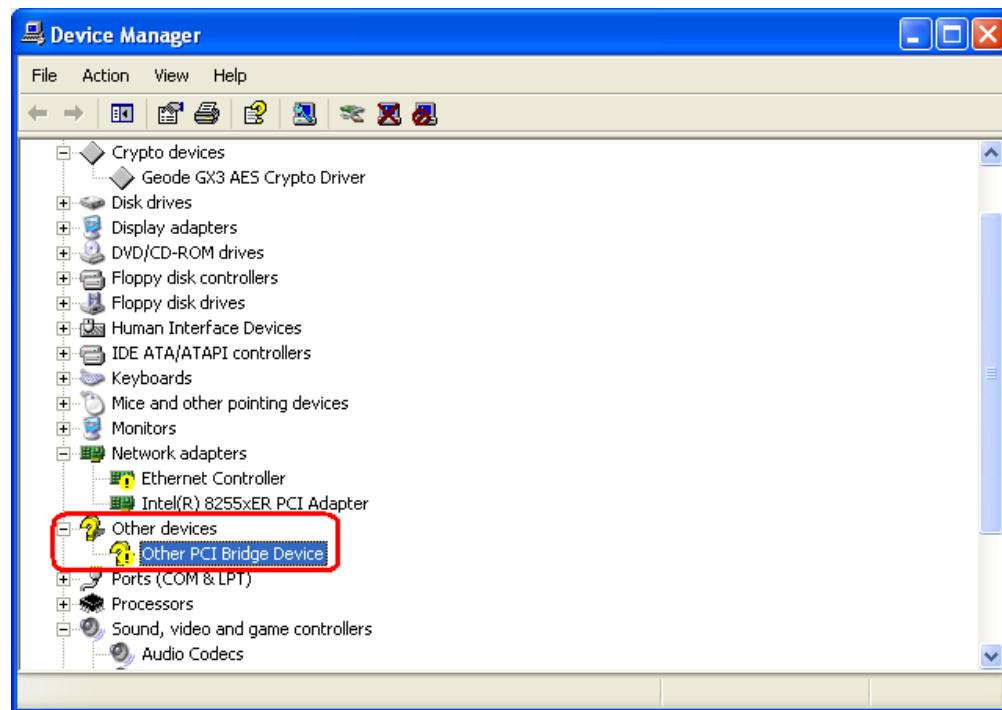

Figure 7-42: Other PCI Bridge Device Controller (Device Manager)
Step 75: Right-click the **OTHER PCI BRIDGE DEVICE CONTROLLER** option listed under **OTHER DEVICES** in **Figure 7-42**.